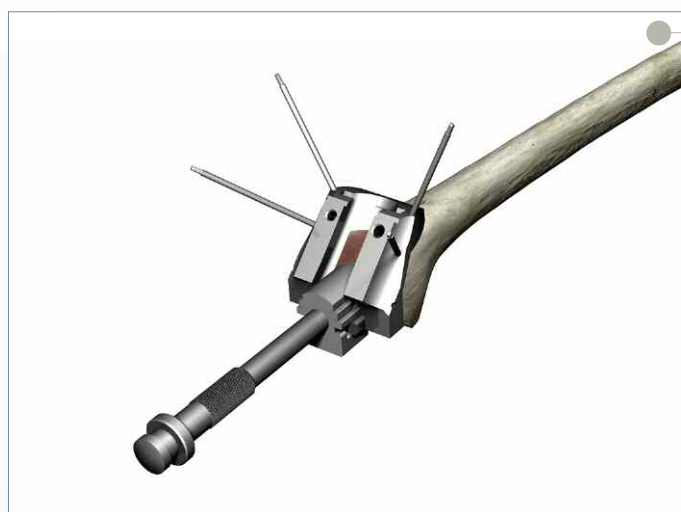

Figure 32
- ▶ Using a mallet, impact the Punch until it reaches the end-stop and is fully seated in the Notch Block (Figure 32).